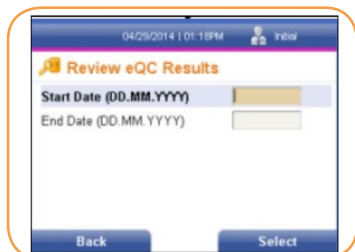

FIGURE 85
2. Using the [↓] key, cursor to the Electronic QC Results text field, then press the right soft key to select it. The *Review eQC Results* screen is displayed (Figure 85).